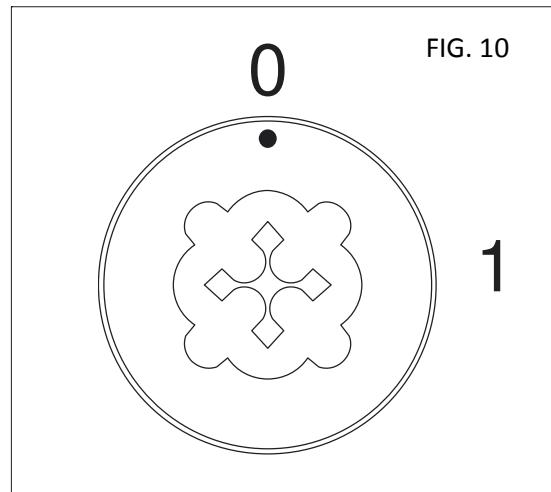

FIG. 10
- Turn the knob (Fig. 10) one click clockwise and lights the green indicator lamp.
- Turn the knob (Fig. 10) back position "0".